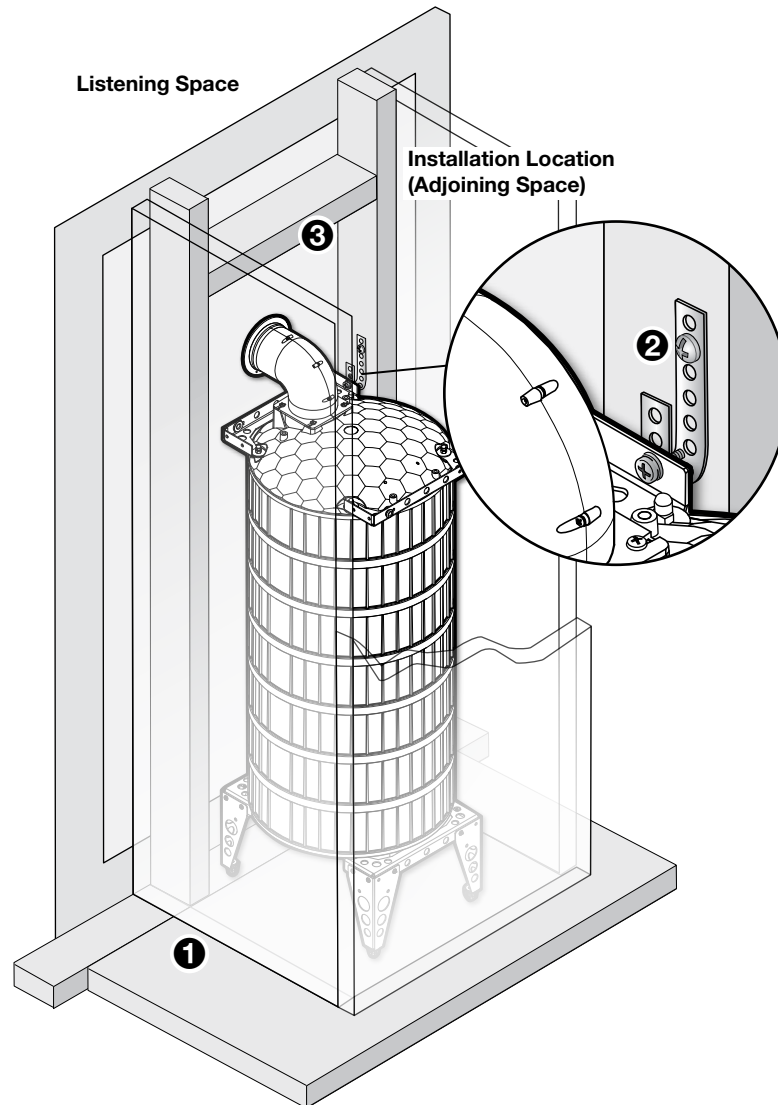

Figure 6. Securing the Floor-mounted Subwoofer and Installing Fire Breaks
- The grille will not fit if you install the feet on the subwoofer with the port tube down. Consider fabricating a small platform to lift the subwoofer (see figure 6, **1** on the next page) or otherwise design your own way to dress the installation to give your installation a finished look.
7. Use a locally-obtained perforated metal hanger strap to secure two of the mounting holes on the top bracket to the nearest stud or other stationary surface (see figure 6, **2**).